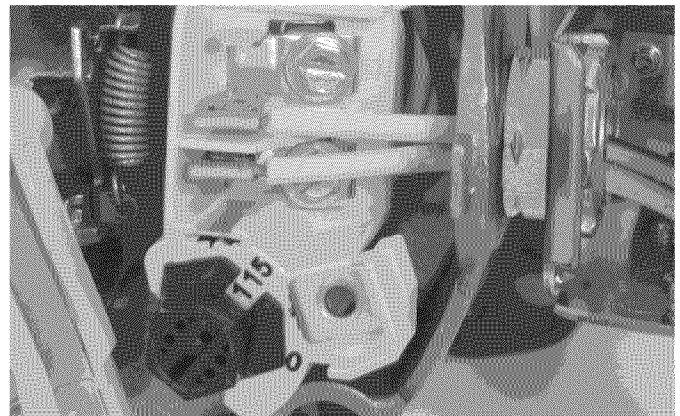

Figure 15: Voltage set to 115 volts, Dial Type
2. Turn the dial counter-clockwise until 115 shows in the dial window as shown in Figure 15.